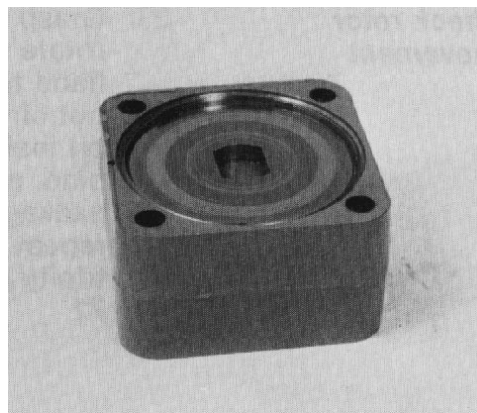

Figure 82
20. Put another piece of the 0.007 in. (0.18 mm) shim stock between the drive plate and each of the three pieces of shim stock already in place. Lift the metering ring and metering package and remove the wood block. Push the metering package and shims into the metering ring until the drive plate and shims are at least flush with the metering ring (Fig. 82).